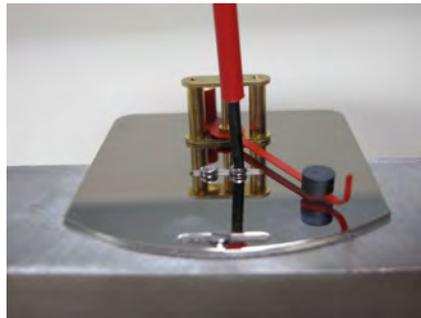

Fig. 41
5. Loosen fixing screws of the display base plate (Fig. 41) and remove the display base plate.